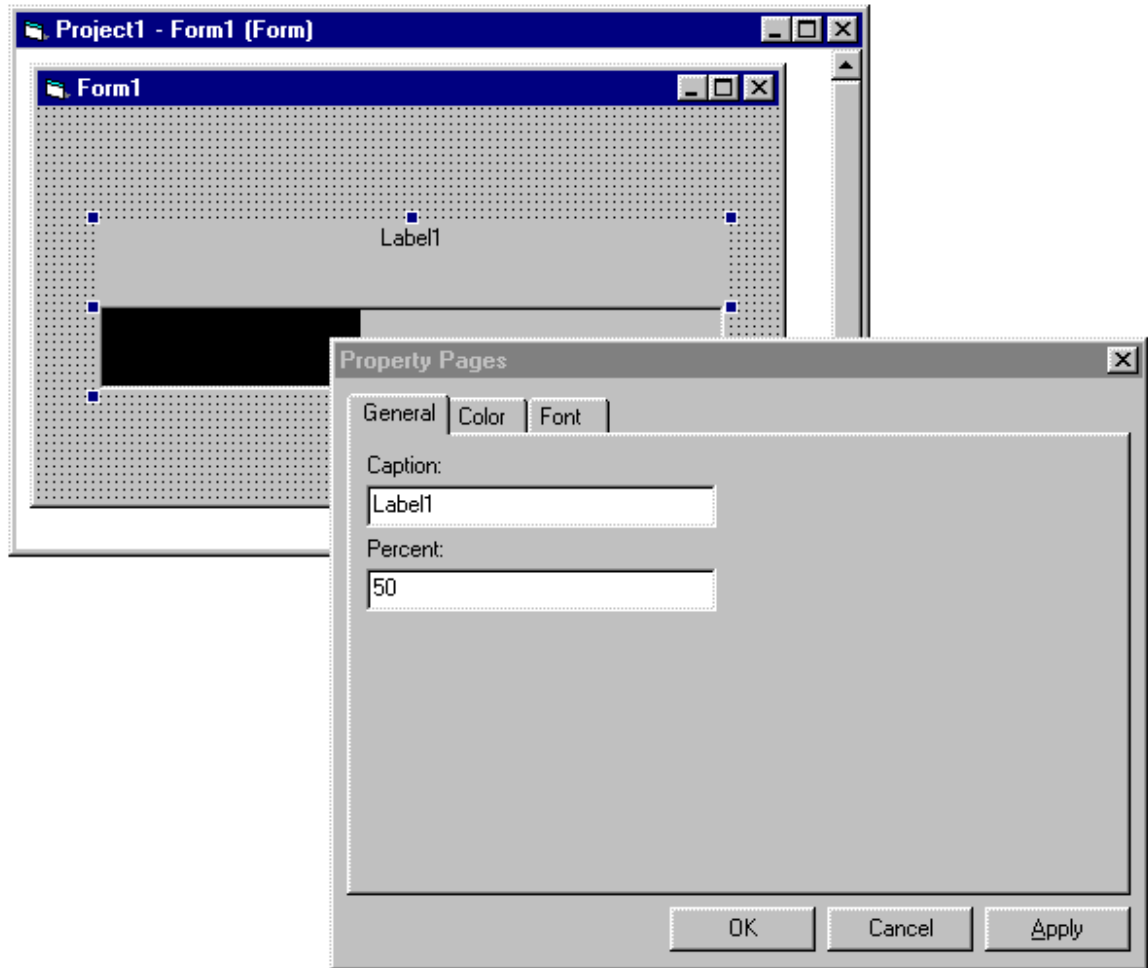

Figure 20. A user-created Property Page in action.
7. **Test the Property Pages:** Ensure that all the designer windows for the UserControl are closed, then right-click on a Meter control on Form1, and choose the Properties item. You should see a Property Page as shown in Figure 20.